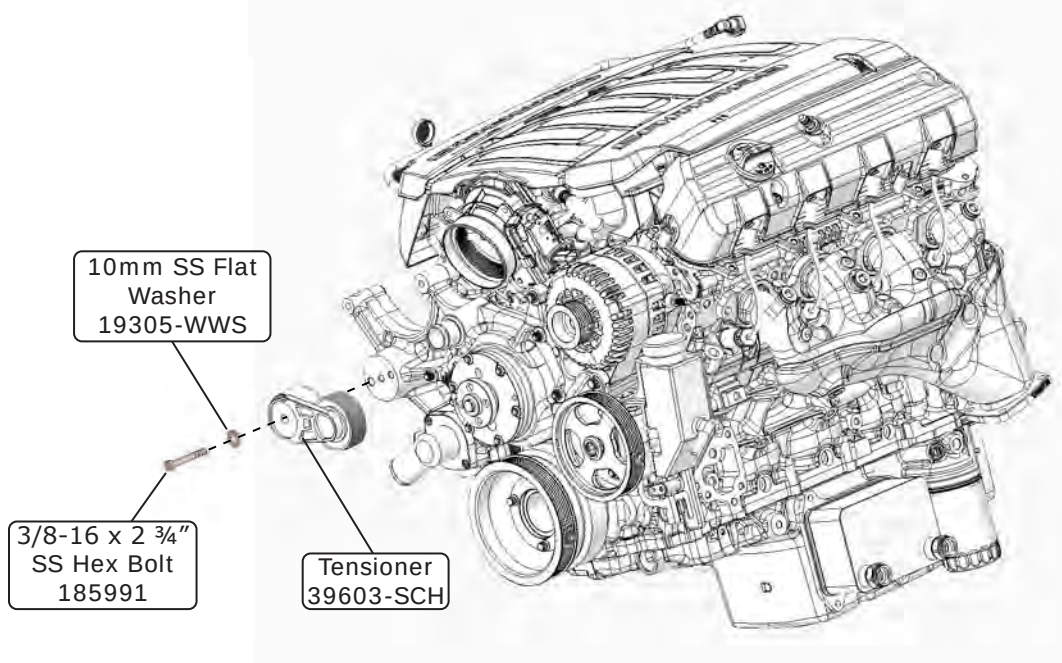

Figure 1
- Align tensioner pins with holes in casting as shown in Figure 1, below. Secure tensioner with 10mm washer and 3/8-16 x 2 3/4" SS hex bolt torqued to 21 +/- 2 lb-ft (See Figure 1, below).